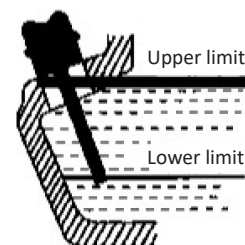

Fig. 3
8. Clutch cable (Images 16-17): Loosen the nut located on the regulating screw to loosen the cable as much as possible. Screw the regulating screw (1) located on the clutch arm (2) and ensure it is tightened securely. Then, press the clutch arm and insert the cable in the hole as shown in image 17. Unscrew the clutch regulator until the clearance of the clutch cable is reduced to less than two millimetres and then tighten the nut.
10. Final check and filling oil (Images 19-21): Check that all screws and fasteners are correctly fitted and that they are tightened securely. Check that the handles are correctly positioned. If they are not in the correct position, adjust them. Set the gear lever in the neutral position. In order for the gearbox to be lubricated, valvoline 80-90 needs to be added. Fill the gearbox until the oil reaches the upper level indicated at the top part of the gearbox. Filling oil: We recommend using SAE20-50 or SAE 30 oil for diesel engines. Place the engine on a flat surface and fill the oil into the engine hole (cap [1] in image 20). The quantity should be 1750ml. Check the oil level from the oil gauge. Check the oil level before each use. Add oil in the air filter under the protector until it covers the hole (1) shown in image 21. Add approximately 150ml of oil. **Warning: The oil level must always be at the upper limit. (Figure 3)**